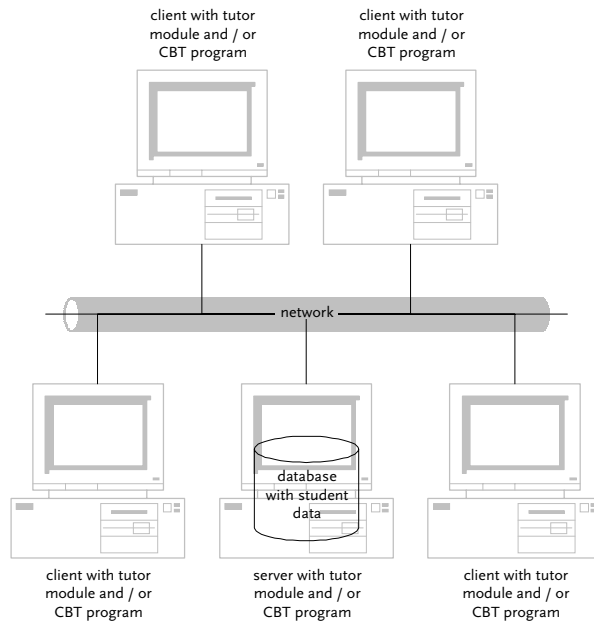

FIGURE 3-9 A network situation
- a network with more than one computer (Figure 3-9)